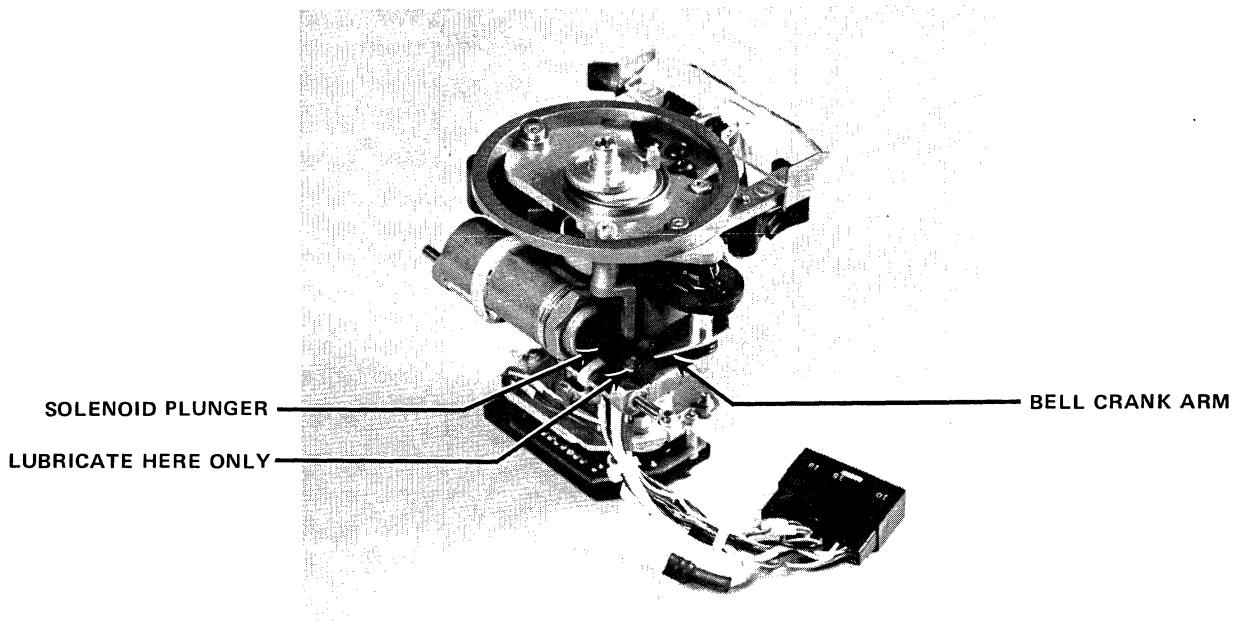

Figure 4-34. ECS BELL CRANK ARM
- 4) Ensure that the solenoid plunger is completely clean and free of any lubricant except in the notch that engages the tip of the bell crank arm (Fig. 4-34).
- 5) Ensure that there is a small dab of multipurpose grease on the tip of the bell crank arm where it will engage the notch in the solenoid plunger (Fig. 4-34).
- 6) With the plunger inserted into the solenoid, engage the bell crank arm in the slot in the plunger as you lower the solenoid into position on the pivot frame (Fig. 4-34).